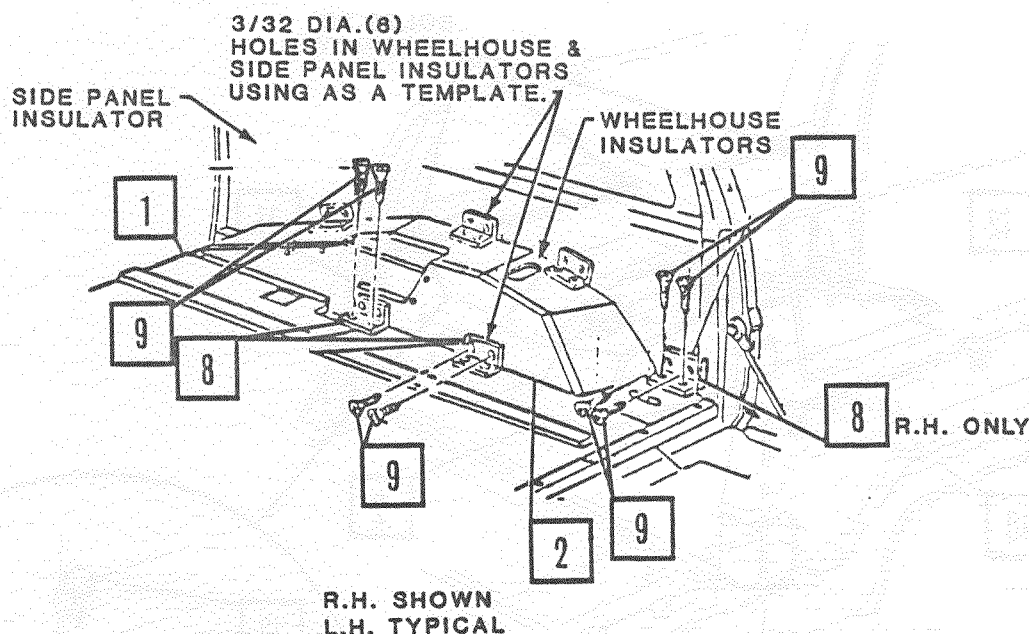

Figure 2.
8. Place wheelhouse insulator assemblies in position (Figure 2.).
9. Install side panel brackets to floor in predrilled holes with screws (Figure 2.).
11. Install wood screws in floor and wheelhouse insulators through brackets, and secure in place (Figure 2.).